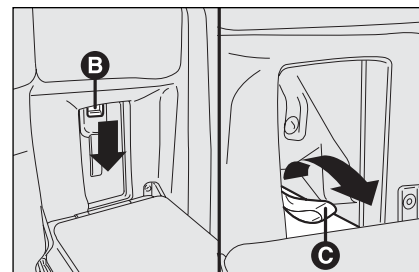

fig. 117
- ☐ press handle **B**-fig. 117 and lower the flap. To close the flap pull tongue **C**.